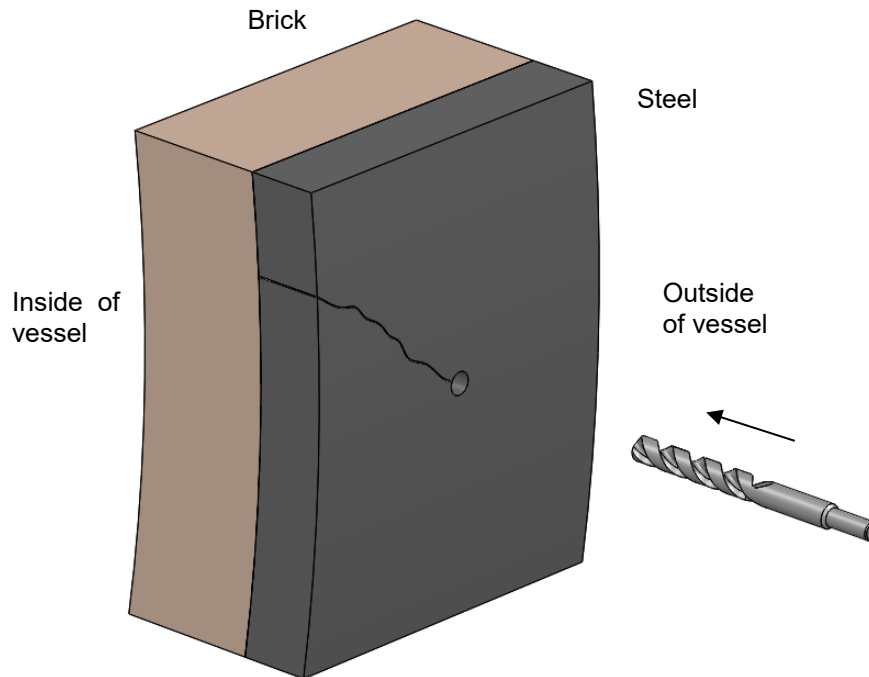

Figure 6.2-7
5. Using the Starting Drill BTSD-1533-B-0, chase hole entirely through steel as shown in Figure 6.2-7. This makes the hole uniform throughout steel.